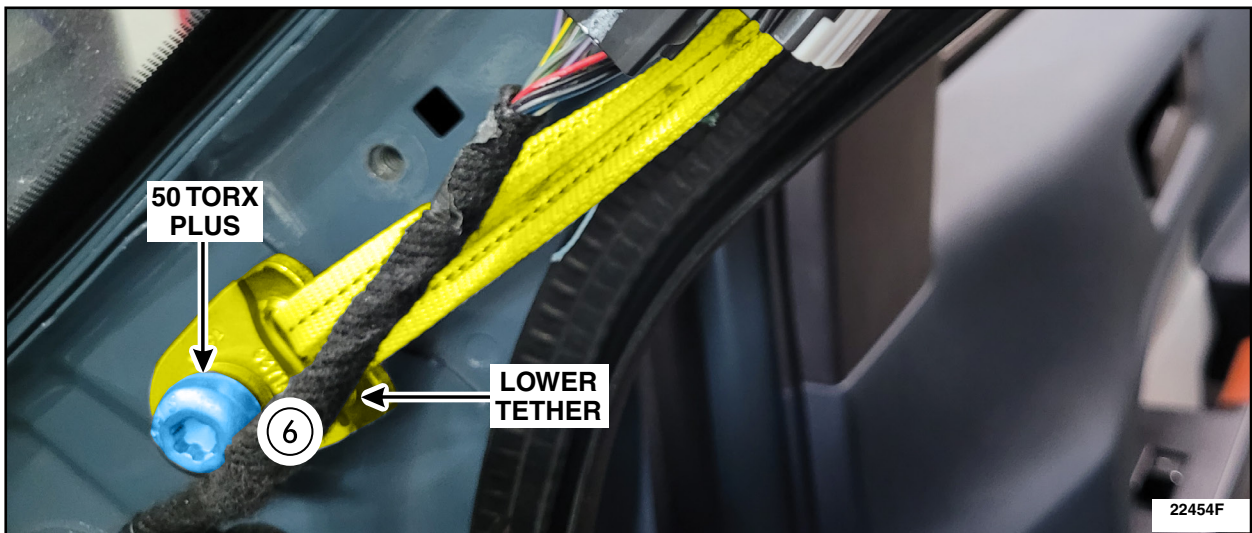

FIGURE 31
33. Using the new 50 torx plus bolt attach the new side curtain airbag lower tether. See Figure 31.